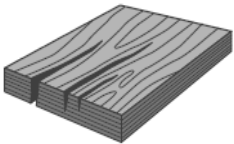

Fig. 3
-Do not overload planks. Refer to the span chart for loading capacity. Immediately remove planks from service that have been overloaded, and visually inspect prior to next use. Also, do not throw planks from scaffolding, or hit bundles of planking with fork ends, as these actions may cause damage, and must be visually inspected before use. (Fig 3)